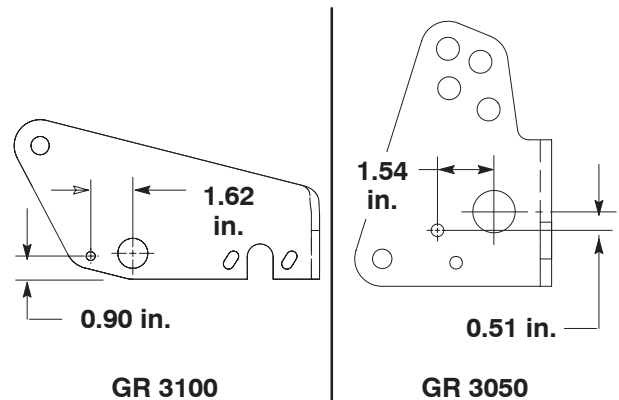

Figure 9
- A. Using the dimensions shown in Figure 9, locate and scribe a line on the appropriate frame member.